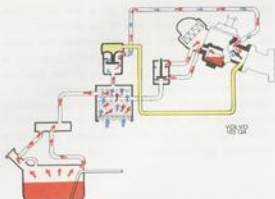

Fig. 2-95. Gas evaporative control system with control rod at running
Vehicles for the Canadian market are fitted with a gas evaporative control system which prevents fuel fumes from being released out into the atmosphere. Its function is outlined in Fig. 2-94 and Fig. 2-95.
fumes travel via the valve to the air cleaner. (Fig. 2-95).
At high vacuum, the vacuum valve is kept closed (Fig. 2-94). When the vacuum drops the valve opens and air is drawn through the canister and vacuum valve to the carburetor venturi. Fuel fumes stored in the venting filter follow the air into the engine and take part in the combustion (Fig. 2-95). The valve (6), which is known as the hot start valve, is to be found on all vehicles with twin carburetors. The difference between a valve used on a vehicle with or without a gas evaporative system is that in the latter case there is no hose connected to the outlet and the fumes are led directly out into the atmosphere when the engine is switched off or idling.